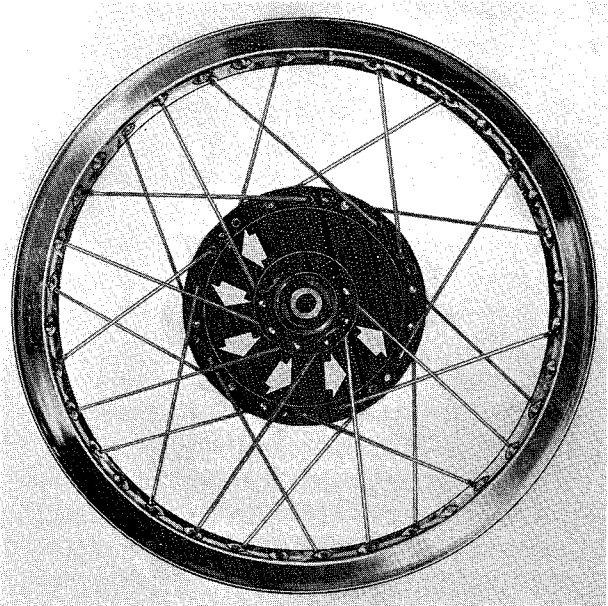

Fig. 12
12. Turn the wheel and assemble the long spokes. First assemble all with the rivet upwards. See figure 12.